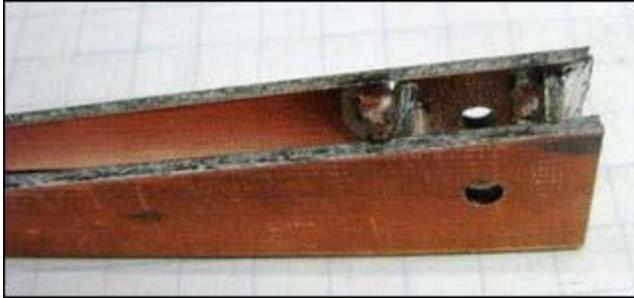

Figure 5. With the two blades soldered to the spacers, holes are drilled as strain reliefs for the test leads.
4. Line up the second blade as well as you can, and solder it to the spacers (**Figure 5**). Again make sure that you do not short the edge traces. Drill a hole through the assembly to be used as strain reliefs for the test leads.